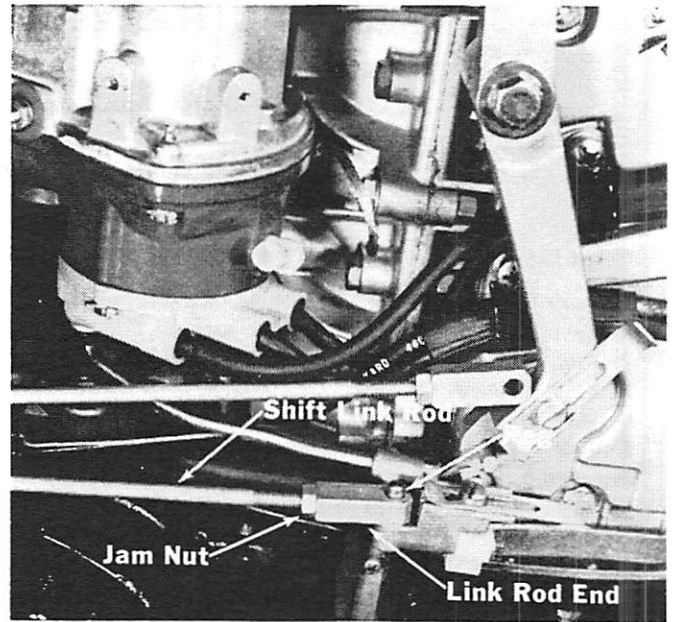

Figure 7. Installing Shift Link Rod
8. With motor in forward gear, place end of shift link rod over shift actuator peg. It may be necessary to loosen jam nut, which is located on link rod, and thread link rod end clockwise or counterclockwise, as required, to line up hole in rod end and shift actuator peg. Tighten jam nut securely. (Figure 7)